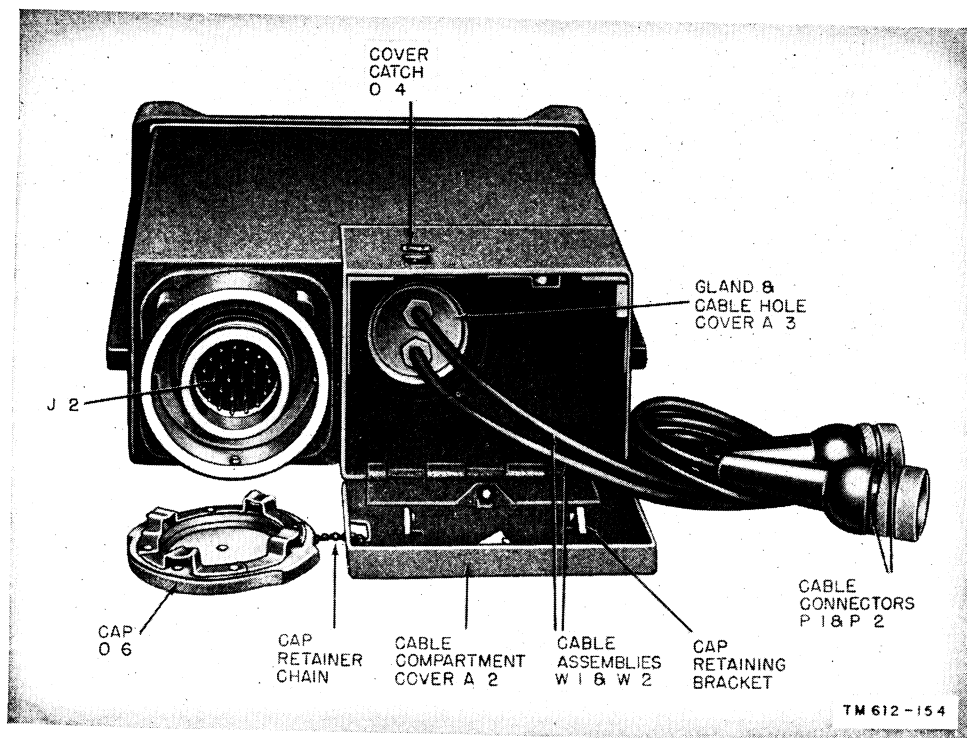

Figure 27. Local Control C-434/GRC, rear view.
(figs. 27 through 30)
c. Remove the protective cover plate from the plug at the rear of the local unit. Open the hinged door at the left of the plug and store the cover in the clamp provided within the compartment (fig. 27).